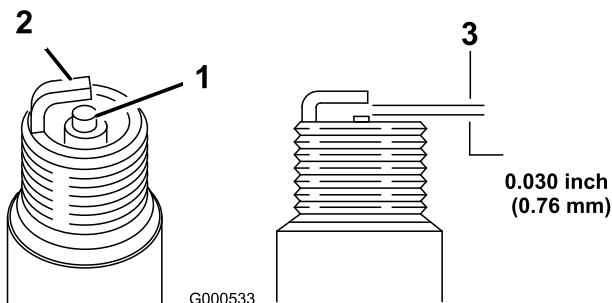

Figure 53
- Look at the center of the spark plugs (Figure 53).
- Check the gap between the center and side electrodes (Figure 53) and bend the side electrode, if the gap is not correct.